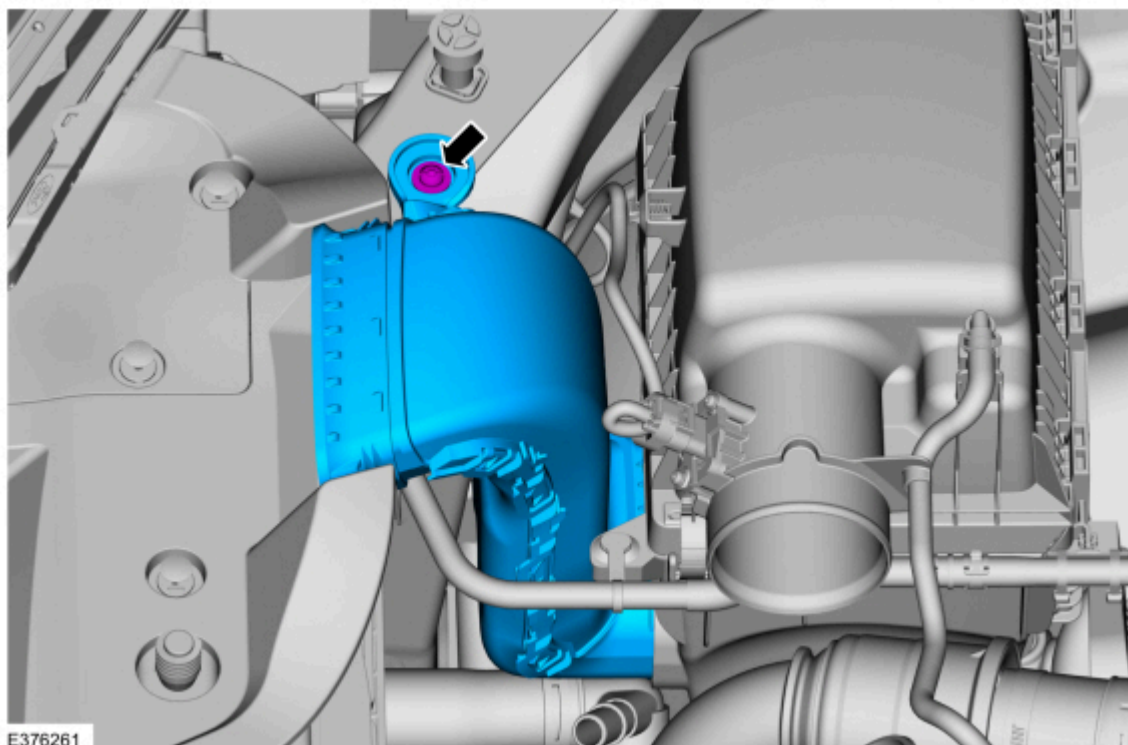

Figure 1
2. Remove the bolt and the air cleaner intake tube. (Figure 1)